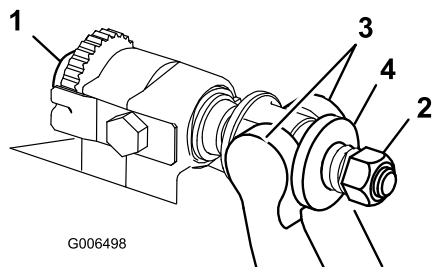

Figure 29
1. Turn bedbar adjuster screws, counterclockwise, to back bedknife away from reel (Figure 29).
2. Back out the spring tension nut, until the washer is no longer tensioned against the bedbar (Figure 29).